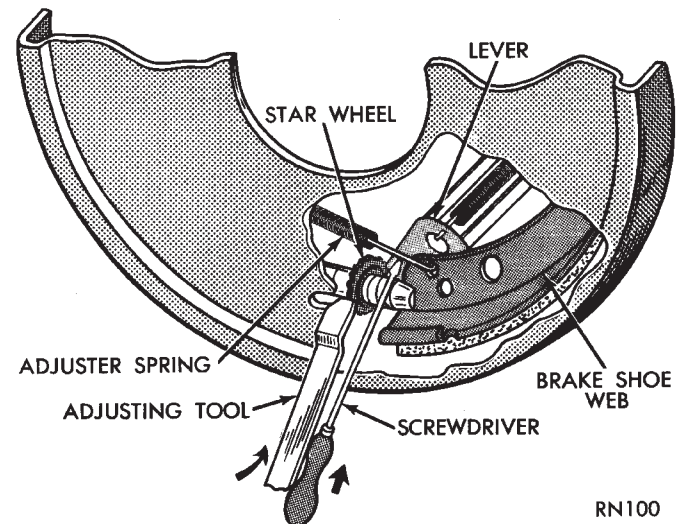

Fig. 2 Brake Drum Adjustment With Tool C-3784
(3) Be sure parking brake lever is fully released. Then back off parking brake cable adjustment so there is slack in the cable.
(4) Insert Brake Adjusting, Special Tool C-3784, (Fig. 2) or equivalent through the adjusting hole in support plate and against star wheel of adjusting screw. Move handle of tool upward until a slight drag is felt when road wheel is rotated.
(5) Insert a thin screwdriver or piece of welding
rod into brake adjusting hole (Fig. 2). Push adjusting lever out of engagement with star wheel. Care should be taken so as not to bend adjusting lever or distort lever spring. While holding adjusting lever out of engagement, back off star wheel to ensure a free wheel with no brake shoe drag.